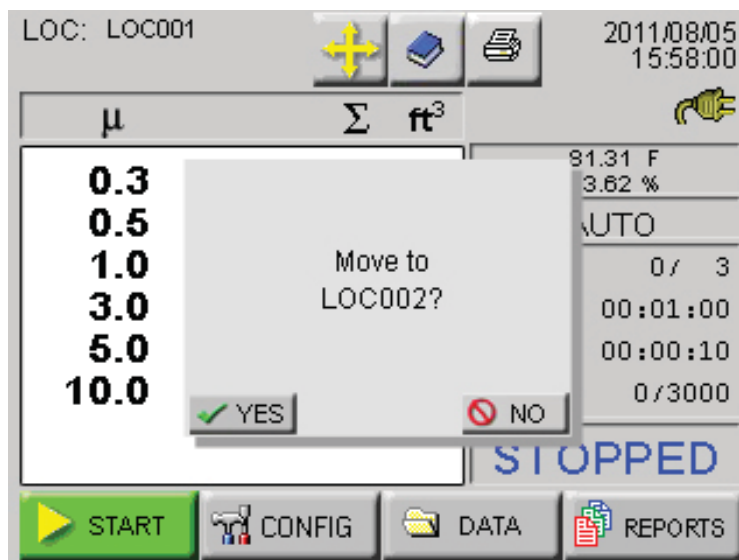

Figure 6-71 Auto Increment Prompt
- The user is prompted to move to the next location after the programmed number of cycle. See Figure 6-71.